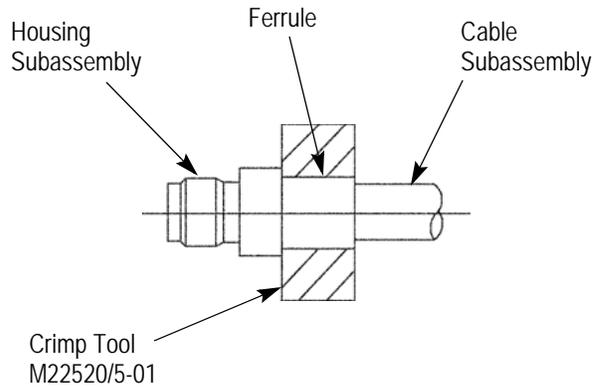

Figure 5
4. Hold the cable (firmly seated) and crimp the ferrule in place. Refer to Figure 5.